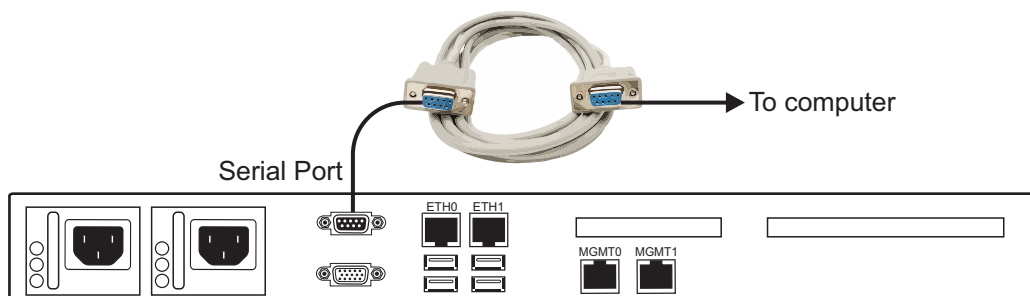

Figure 9.1 7800-CTRL Serial Port Connection
1. Connect a null modem DB9 female-female cable between the DB9 serial port of your computer and the DB9 serial port of the 7800-CTRL. See figure 9.1 on page 58.